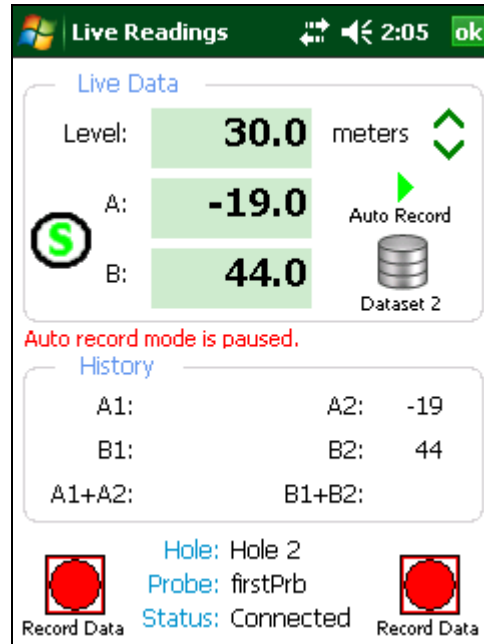

Figure 42 - Auto record paused, Dataset 2 selected
6. Tap the “Dataset 1” icon and observe that the red status text message will change to “Auto record mode is paused” and the “Pause” icon will change to the “Play” icon while “Dataset 1” becomes “Dataset 2” (see Figure 42).